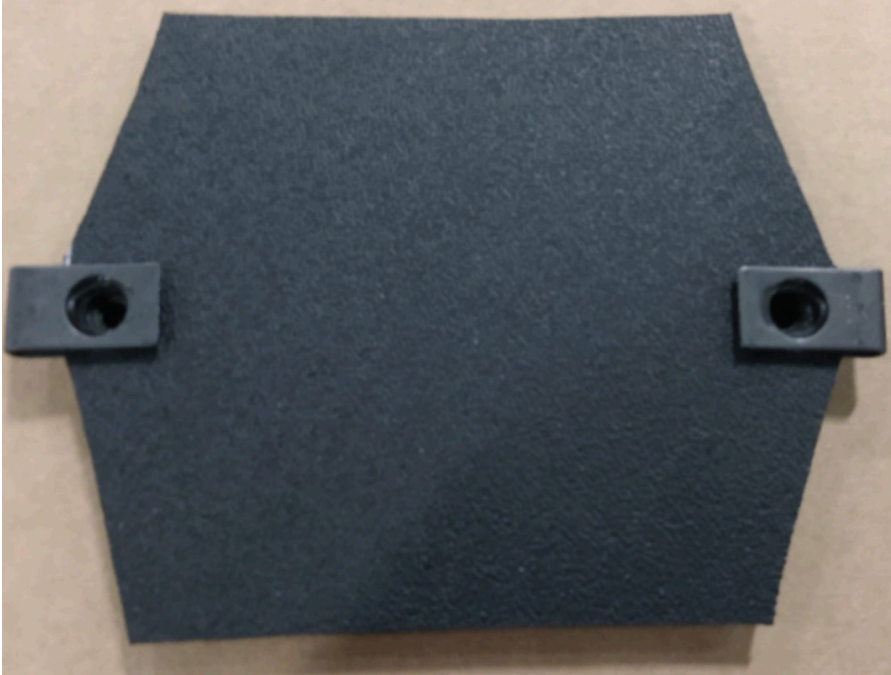

Figure 23
19. Using a utility knife, cut along the offset line. Then, using a 1/4" drill bit drill out the two (2) marked holes. Figure 23